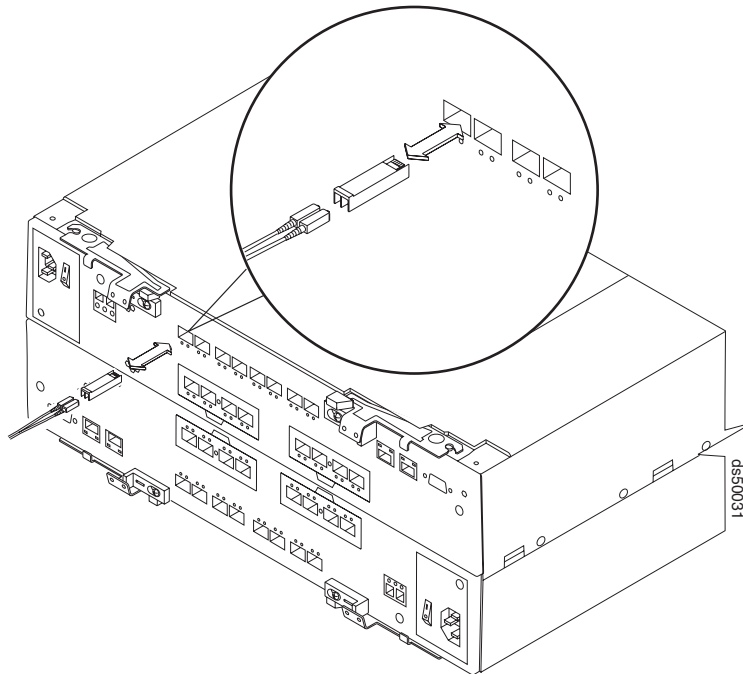

Figure 69. Installing an SFP module and LC-LC cable in a DS5100 and DS5300
1. Install an SFP module in the drive mini hub port on the back of the Storage Subsystem, as shown in Figure 69 on page 106.